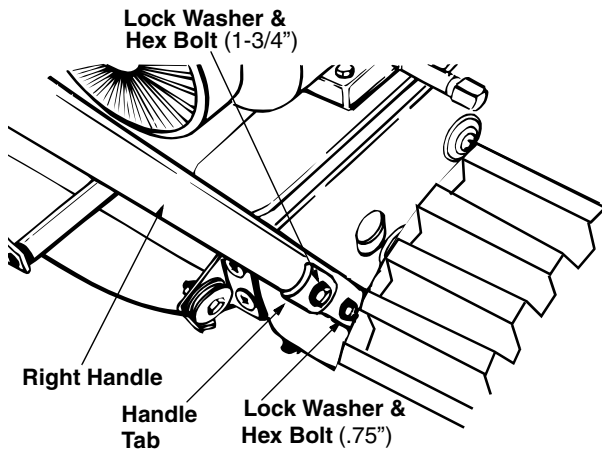

Figure 2
- Secure bottom hole on the handle to the snow thrower using 5/16 x .75" hex bolt and lock washer from the hardware pack (group A on page 5). Do not tighten at this time. See Figure 2.
- Place a handle tab, included in the hardware pack (group A), over the upper hole in handle so that the contour of the handle tab matches that of the handle. See Figure 2.